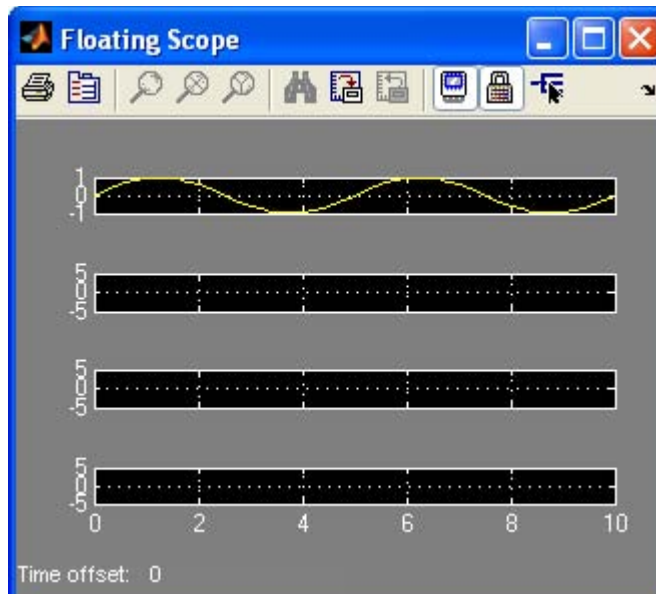

Figure 14.13. The display of the sine waveform on the Floating Scope
5. We issue the Simulation command and the displays on the Floating Scope are as shown in Figure 14.13.